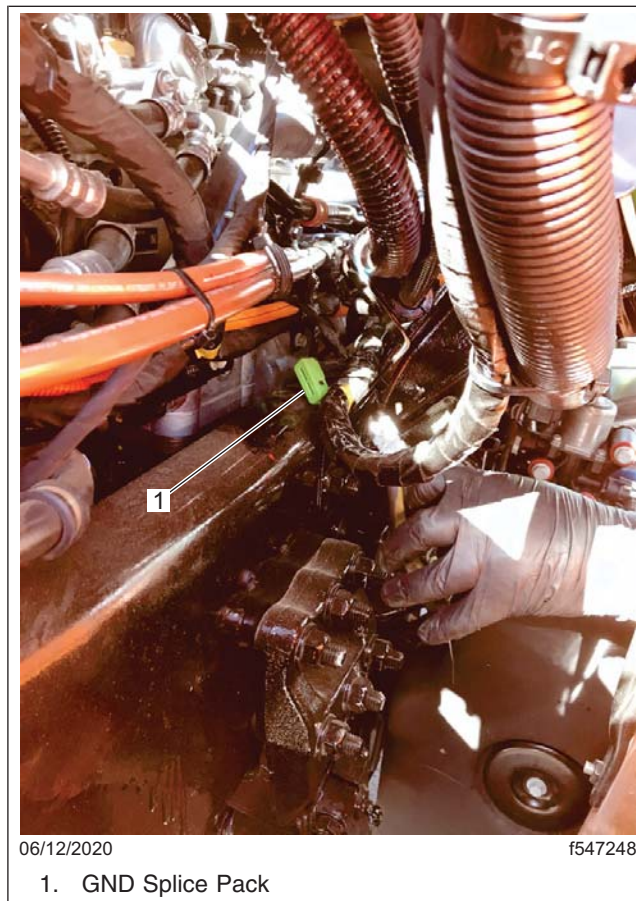

Fig. 5, GND Splice Pack
10. Remove the cab mounted quarter fenders/splash shields as needed to access the harness routing and splice pack. Refer to **Section 88.01, Subject 100** of the *Western Star Workshop Manual* for instructions. Locate the GND splice pack GND_PWRTRN_ENG_O_SP_GNDE_1A which will be along the harness (A66-13193-000) and near the L/H frame rail. See **Fig. 5**.